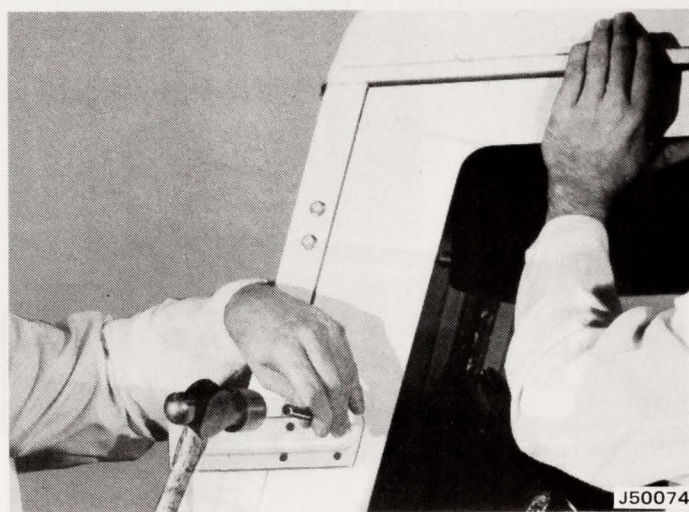
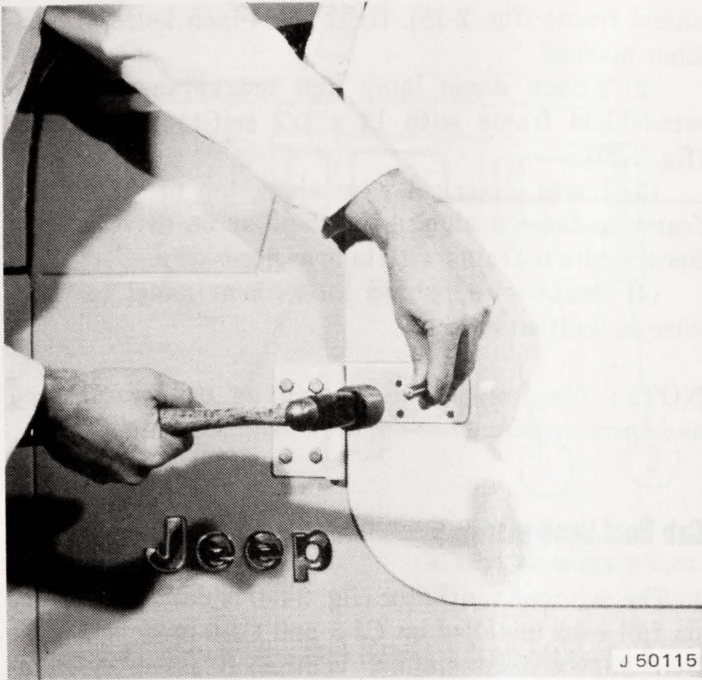

Fig. 2-22 Marking Hole Locations for Upper Male-Half Hinges
Fig. 2-23 Marking Locations for Lower Hinge Female-Half Hole
(1) Place each door in its respective opening and align so top edge of door is parallel to top of opening and door is as far forward and upward as possible. Hold door in this position and insert upper male-half hinge into upper female-half hinge. Use male-half hinge as template and centerpunch locations for holes to be drilled in door (fig. 2-22).
(2) Drill 9/32-inch hole through door at one of hole locations. Fasten upper male-half hinge to door with bolt and locknut.
(3) Check door alignment and remaining hole locations for proper placement. Drill remaining holes and install bolts and locknuts.
(4) Fit lower female-half hinge onto lower male-half hinge attached to door. Hold doors in proper position, use lower female-half hinge as a template, and mark hole locations on body (fig. 2-23).
(5) Drill 9/32-inch hole through body at one location and fasten lower female-half hinge with bolt and locknut.
(6) Check door alignment and remaining hole locations for proper placement. Drill remaining holes through body and install bolts and locknuts.
(7) Install doors.